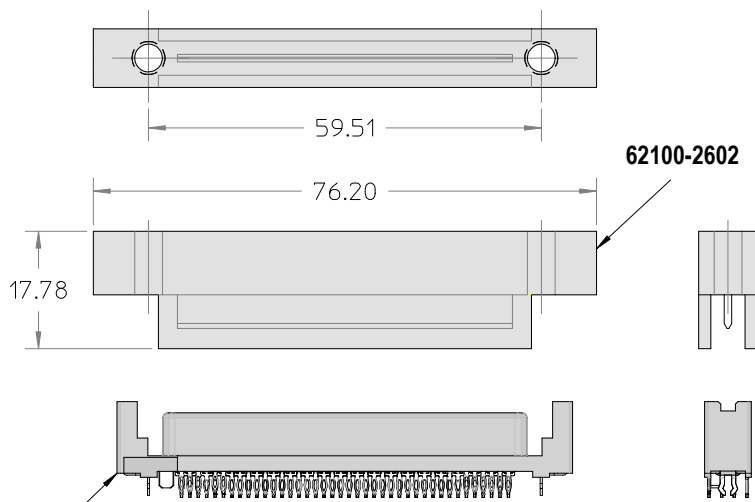

Figure 1: Tool Mounting
1. Mounting holes (M5 threaded) are provided in the tool for attachment to a (customer-provided) tooling plate. For mounting dimensions, see Figure 1.